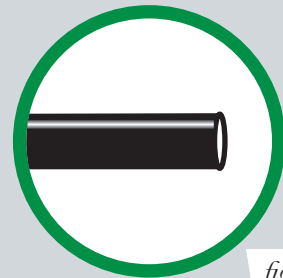

fig. 19
When cutting air lines, use a sharp knife or a hose cutter and make clean, square cuts (fig. 19). Do not use scissors or wire cutters because these tools may deform the air line, causing it to leak around fittings. Do not cut the lines at an angle.
- a. Check the air line connection by deflating the spring and removing the line by pulling the collar against the fitting and pulling firmly on the air line. Trim 1" off the end of the air line. Be sure the cut is clean and square (see fig. 19). Reinsert the air line into the push-to-connect fitting.